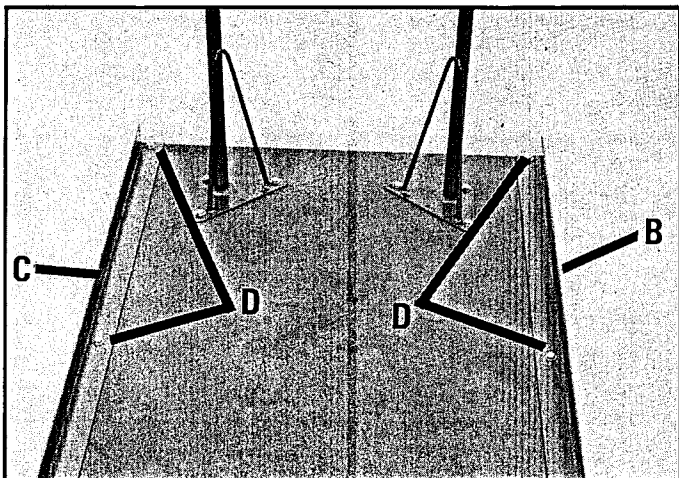

Fig. 21
3. Fasten the rear table support (B) and front table support (C) Fig. 21, to the bottom of the table, as shown, using four #14 x 3/4" washer face screws (D) supplied. NOTE: The slotted holes closest to the bend in the table supports (B) and (C) should be against the table. Screws (D) for rear table support (B) should be run in tight. Do not completely tighten screws (D) on front table support (C).